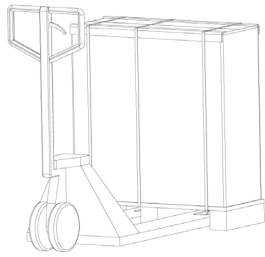

Fig. 4.
- ❑ To unpack the equipment follow the sequence from figure 4 to 7 (cut the wraps of the cardboard enclosure and remove it from the top as it was a cover or in case of wooden packaging, dismantle it with the needed tools; remove the corners and plastic bag. The UPS will be naked over the pallet.